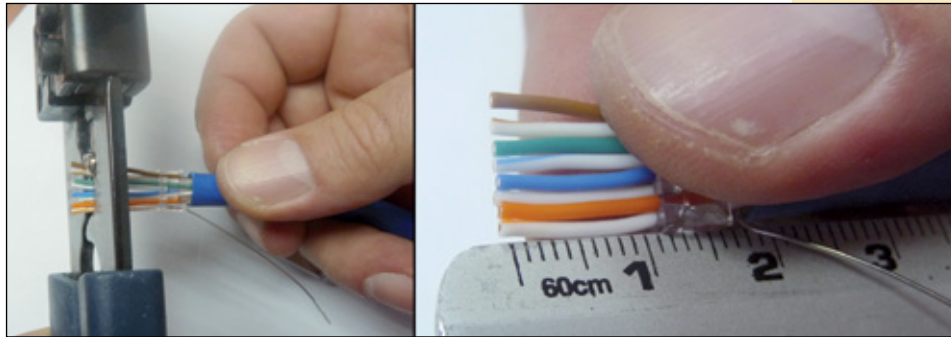

Figure 18
- 13 Use the **Crimper-Cutter** tool to make a straight cut as measured above as shown in **Figure 18**.